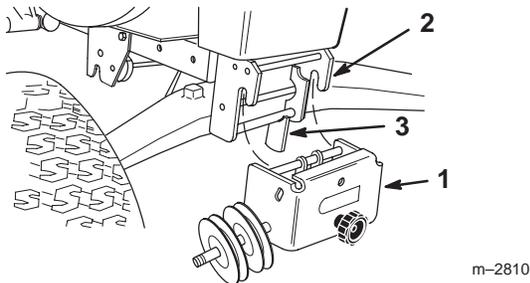

Figure 7
- Place pulley assembly into front hitch and lock by moving latch rearward (Fig. 7).